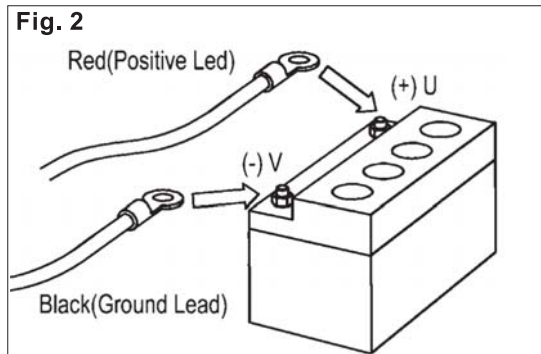

Fig. 2
- Plug terminal on red (positive) wire into red terminal (U, Figure 2) on battery.
- Plug terminal on black (negative) wire into black terminal (V)